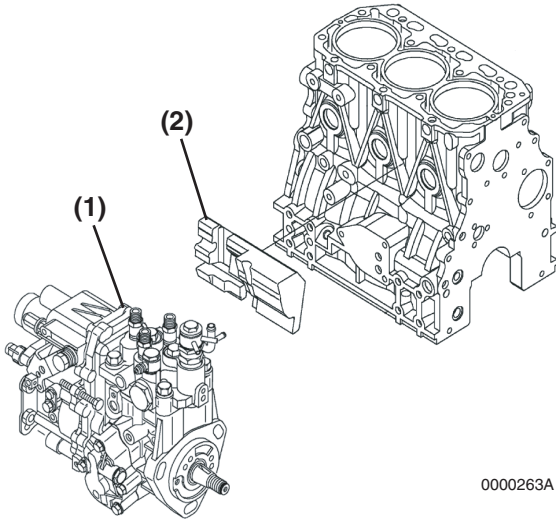
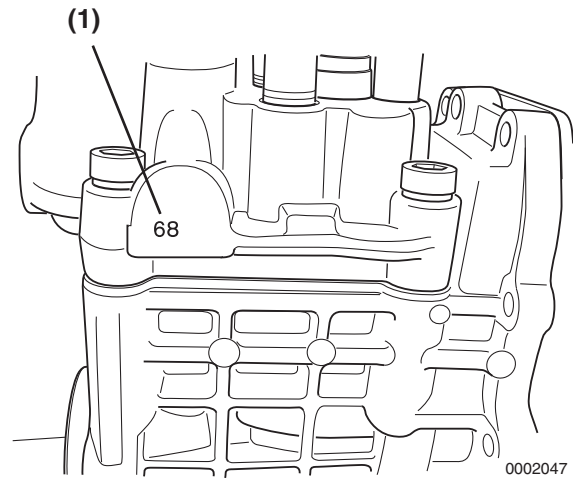

Figure 7-16
Figure 7-17
Note: Some model engines may require the intake manifold and fuel injection pump insulator (Figure 7-16, (2)) be removed to access the inner fuel injection pump (Figure 7-16, (1)) retaining nuts.
24. Remove the fuel injection pump (Figure 7-16, (1)). For purposes of future injection timing purposes, record the fuel injection pump timing index number located on the boss on the engine side (back) of the of the fuel injection pump (Figure 7-17, (1)).